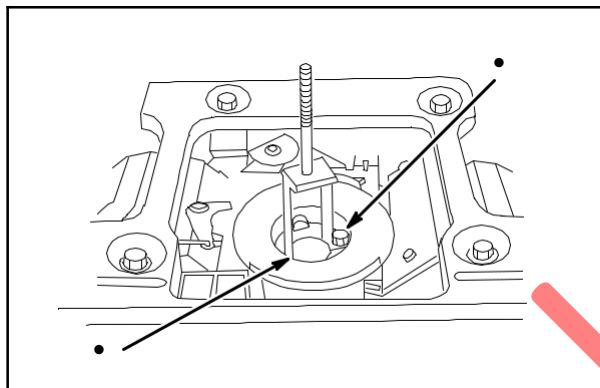

Fig. 5
Install the air cleaner base. Torque screws (1), **Fig. 5** to **60 in. lbs. (7 Nm)**. Connect the breather tube.